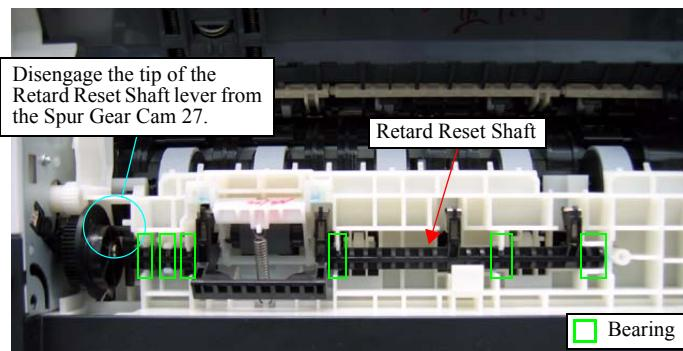

Figure 4-177. Removing the FASF Retard Assy (2)
- When installing the Retard Reset Shaft, make sure to secure the shaft with the six bearings of the Paper Guide Bank Assy as shown in *Figure.4-177*.